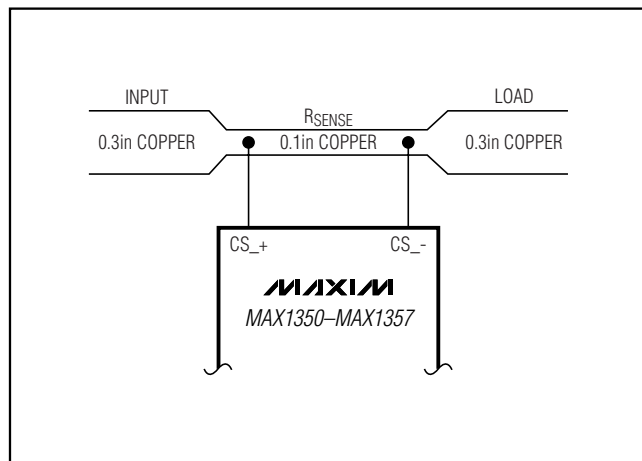
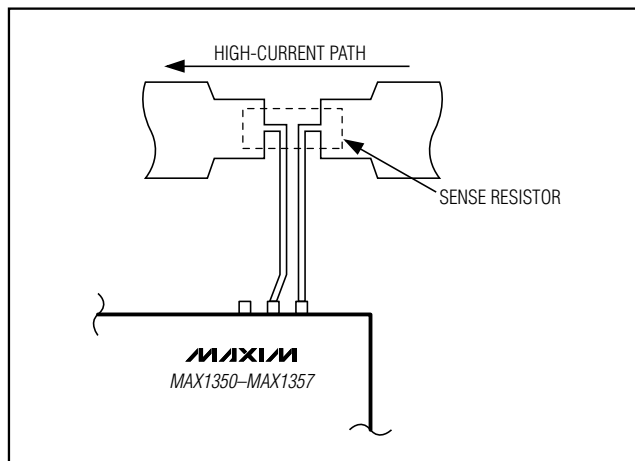

Figure 3. Using PC Board Trace for R_{SENSE}
Figure 4. Kelvin Connects for Sense Resistors
- 5) Cost: If the cost of R_{SENSE} is an issue, it may be preferable to use an alternative solution, as shown in Figure 3. This solution uses the PC board traces to create a sense resistor. Because of the inaccuracies of the copper resistor, the full-scale current value must be adjusted with a potentiometer. Also, copper's resistance temperature coefficient is relatively high (approximately $0.4\%/^{\circ}\text{C}$).
In Figure 3, assume that the load current to be measured is 10A using a 0.3in-wide, 2oz copper trace. The resistance of 0.1in-wide, 2oz (70 μm thickness) copper is 30m Ω /ft. For 10A, select $R_{SENSE} = 5\text{m}\Omega$ for a 50mV drop at full scale. This resistor requires approximately 2in of 0.1in-wide copper trace.
The MAX1350-MAX1357 can achieve high-current measurements by using low-value sense resistors, which can be paralleled to further increase the current-sense limit (see Figure 3). As an alternative, PC board traces can be adjusted over a wide range. Minimize the trace length and ensure accurate sensing with Kelvin connections (see Figure 4).